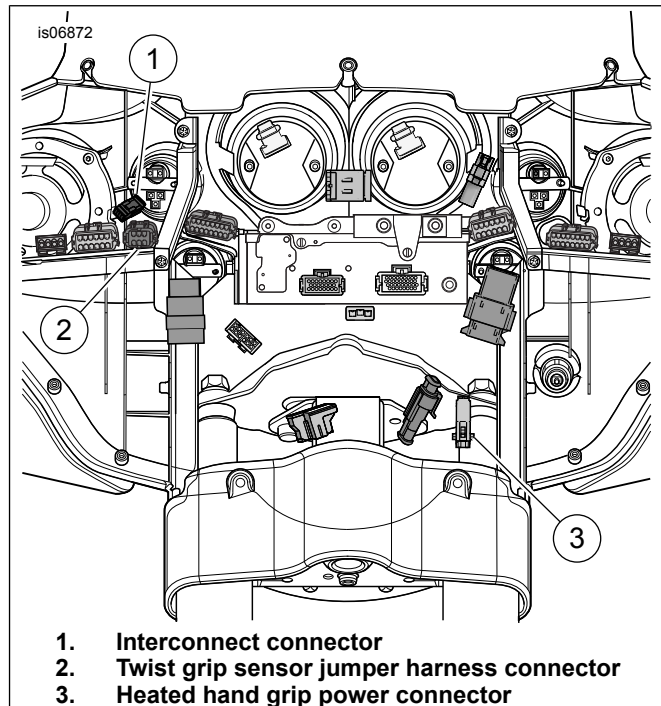

Figure 6. Fairing Wiring (FLH models)
2. See Figure 6. Connect power connector half from left hand grip to hand grip power connector (3).
See Figure 6. Hand grip power connector (3) has a cap that must be removed before connecting to vehicle wiring.
3. Connect (1) to left side hand grip connector.
- c. Connect TGS main harness connector from jumper harness to connector (2).
5. Connect heated hand grip connector half from left hand grip to right side heated grip interconnect connector (1).